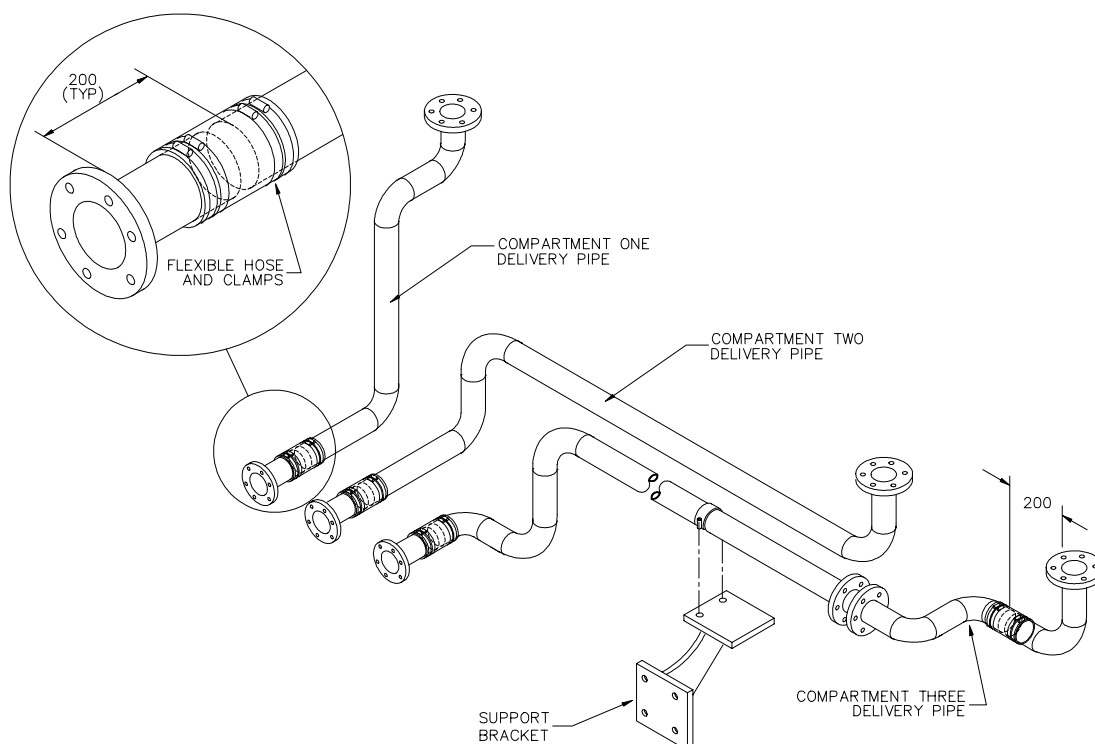

Figure 1 – Compartment Pipes Flex Pipe Locations
- a. Cut compartment one, two and three delivery pipes (using hand-held hacksaw with an 18 TPI blade), 200 mm from the delivery pipe to manifold flange, as shown in Figure 1.
- g. Cut compartment three delivery pipe (using hand-held hacksaw with an 18 TPI blade), 200 mm forward of the last bend, as shown in Figure 1.
- u. Mount support bracket (Item 6, 7 and 8, Table 1) from inside of subframe to compartment three delivery pipe (Figure 1).